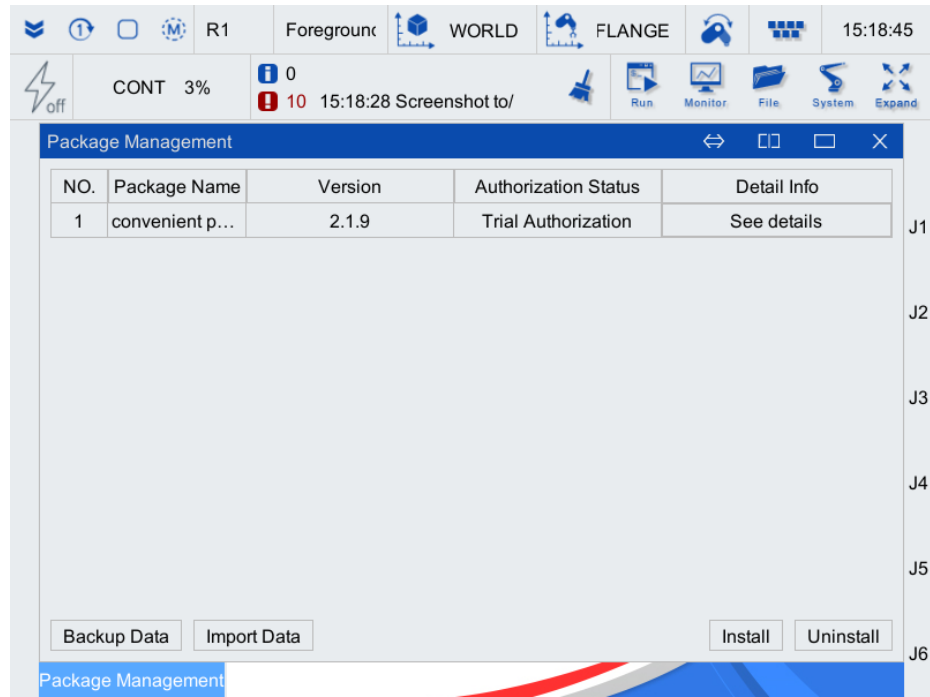

Figure 2-8 Package management box
- Step2. Click [package management] to open the [package management] interface as shown in Figure 2-8.